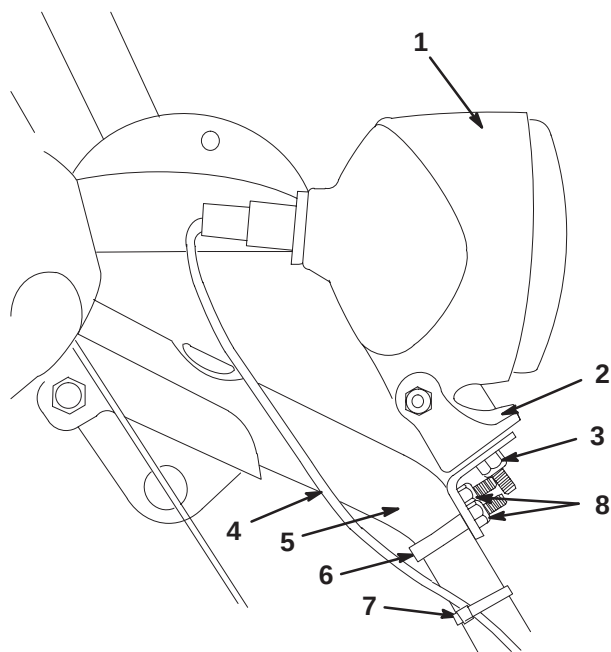

Figure 3
5. Secure the bracket to the right side of the handle using the U-clamp, 2 washers, and 2 locknuts (1/4 in.) provided in the kit (Fig. 3).
6. Secure the headlamp onto the bracket (Fig. 3) with the nut (5/16 in.) provided in the kit.
7. Insert the wire connector (with the plastic clip on the bottom) straight into the back of the headlamp until it is securely in place (Fig. 3).
8. Secure the wire harness to the upper right side of the handle assembly with a plastic cable tie (provided in the kit) about an inch (2.5 cm) below the U-bolt (Fig. 3).